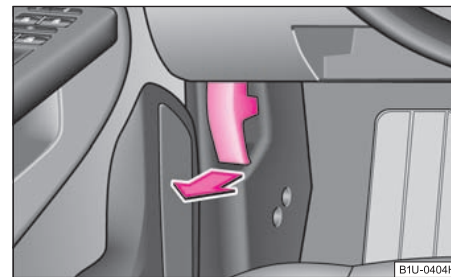

Fig. 14 Bonnet release lever
- Pull the unlocking lever below the dash panel on the driver's side ⇒ fig. 14.